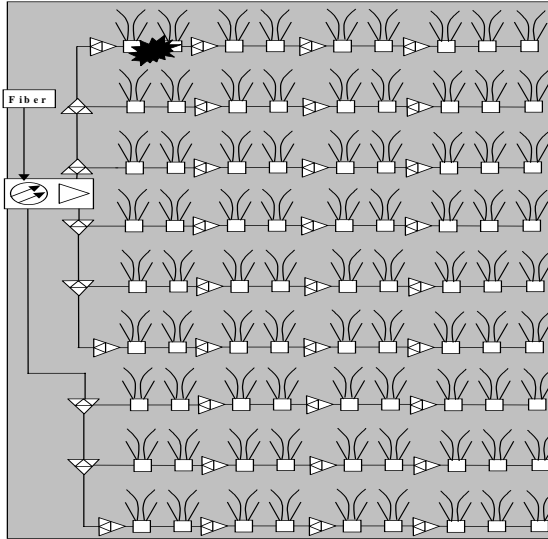

**Fig. 5-1 Customers Affected by a Forward Path Ingress Source**
- **Accumulation of Noise:** Accumulation of noise means that problems compound far more quickly than in the forward path. In a forward path network, noise or interference generated at one point in the network affects everyone "downstream" from the noise source (see Fig. 5-1).